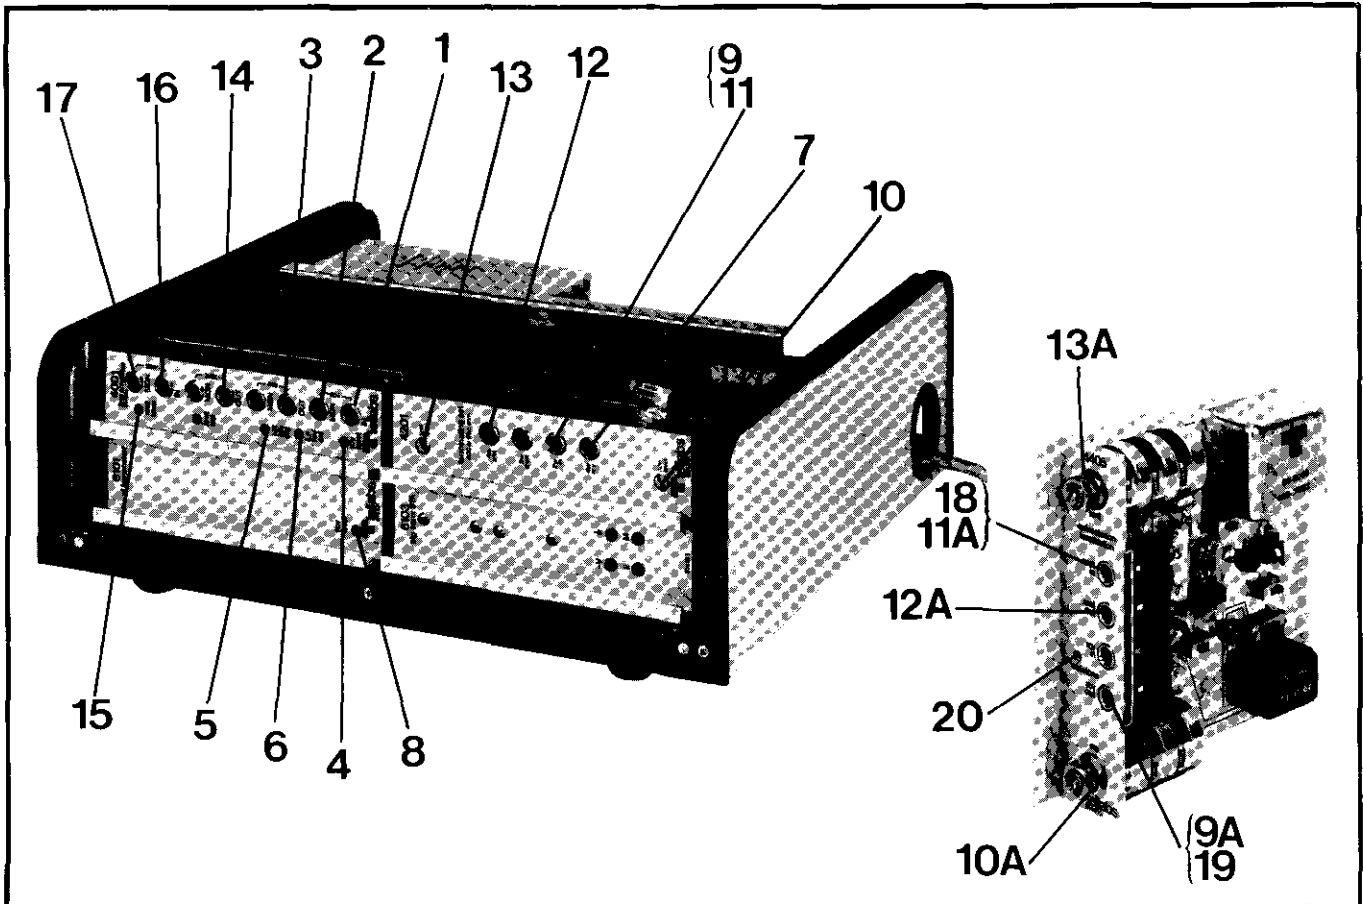

figure 7. Sequential alignment adjustment locations
3.11 To align the 260 System, an oscillator and voltmeter, or Transmission Measuring Set (TMS) are required. A photograph of the 260 System (figure 7) is number-keyed to the text to supplement the alignment procedure. The procedure references only the 4001 Line Amplifier in position 1 of the Assembly. Other Tellabs' modules, when used in position 1, will follow this same procedure.